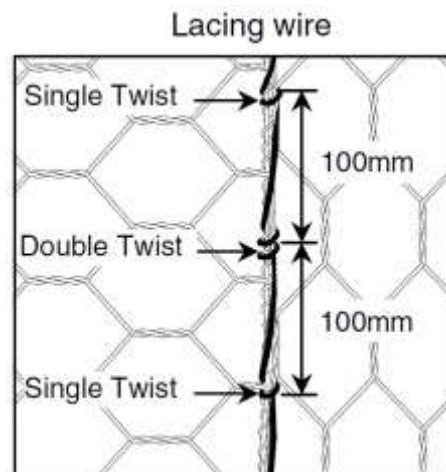

Figure 3 The required spacing of gabion lacing stitches (Maccaferri)
5.3.1. Lacing wires shall be secured around the selvedge wire or heavier edge wire, where present, by looping and twisting the lacing wire around itself. Proceed tying with alternating double and single loops (each spaced 100 mm apart). Figure 3 shows the required spacing for gabion lacing stitches.